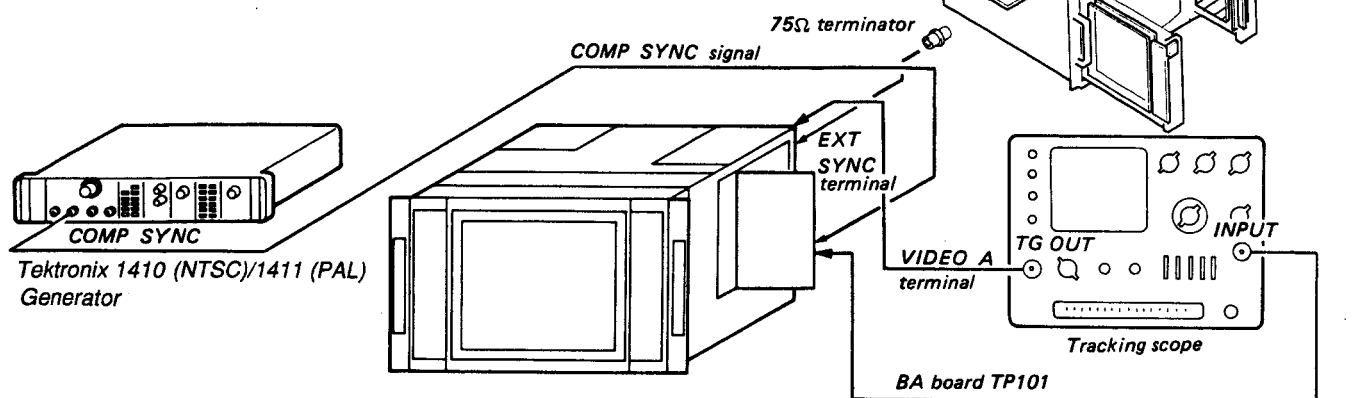
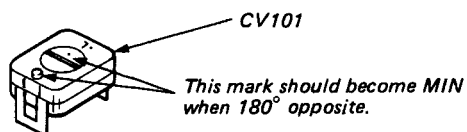

Fig. 4-1
Fig. 4-2
- Complete the connection as shown in Fig 4-1.
- CONTRAST control (FRONT PANEL (R)) Minimum
- BRIGHTNESS control (FRONT PANEL (R)) Minimum
- Adjust CV101 so that minimum as shown in Fig. 4-2.